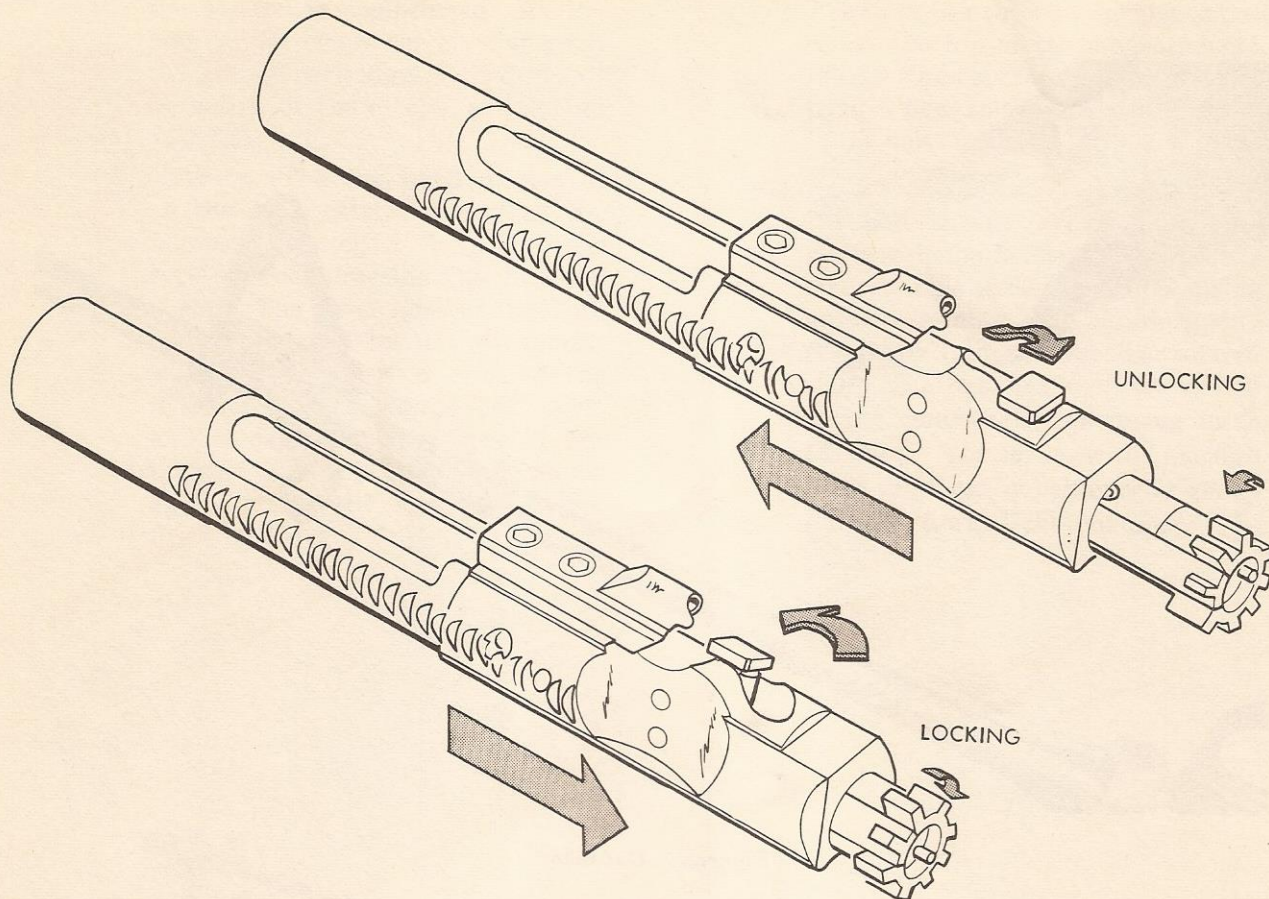

Figure 30. Locking and unlocking.
- (c) *Unlocking.* As the bolt carrier moves to the rear, the cam track in its upper surface acts on the bolt cam pin, rotating the cam pin and bolt until the locking lugs of the bolt are no longer in line with the locking lugs of the barrel extension (fig. 30).
- (j) *Locking.* When the bolt carrier group enters the last  $\frac{1}{2}$  inch of its forward movement, the bolt cam pin emerges from the guide channel in the upper receiver and moves along the cam track, rotating the bolt *counterclockwise* into the locked position (fig. 30). The weapon is then ready to fire and the cycle begins again.
- (2) *Automatic fire.*